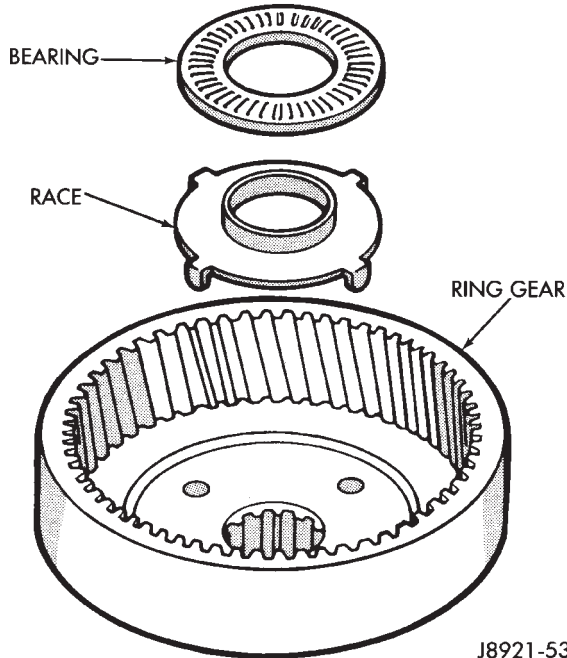

Fig. 22 Install Ring Gear Bearing And Race
(4) Install clutch pack retaining plate and snap ring in planetary gear.
(5) Coat planetary race with petroleum jelly and install it on planetary gear. Outside diameter of race is 41.8 mm (1.646 in.); inside diameter is 27.1 mm (1.067 in.).
(6) Install hub in planetary ring gear and install snap ring.
(7) Coat race and bearing with petroleum jelly and install in planetary ring gear (Fig. 22).
(8) Verify bearing/race size. Outside diameter of race is 47.8 mm (1.882 in.) and inside diameter is 24.2 mm (0.953 in.). Outside diameter of bearing is 46.8 mm (1.843 in.) and inside diameter is 26 mm (1.024 in.).